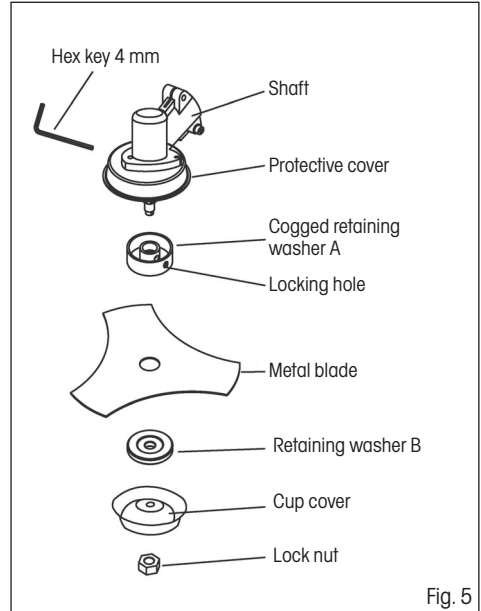

Fig. 5
- ✿ Lock the shaft in place by inserting the included 4mm hex key (see Fig. 5). To achieve this, it is necessary to align the hole in the protective guard with the hole in the shaft and insert the hex key. Align the holes by turning the protective guard.